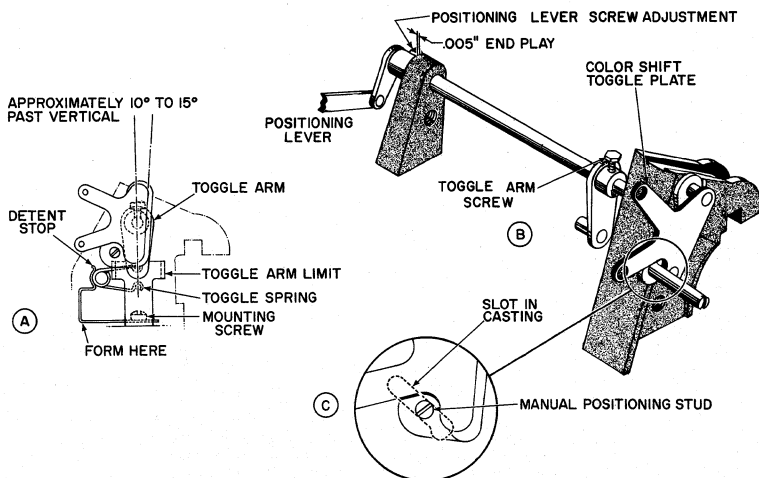

Figure 70
1. Position the toggle arm so the toggle spring is in the center detent stop (Figure 70). Position the manual positioning stud so it is in the center of the slot in the right base casting and tighten the toggle arm screw.